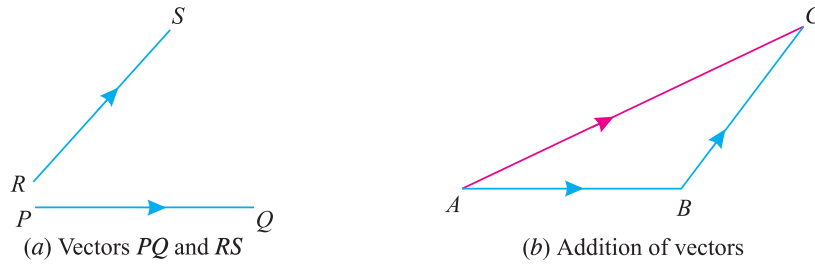

Fig. 1.3.
5. **Addition of vectors.** Consider two vectors  $PQ$  and  $RS$ , which are required to be added as shown in Fig. 1.3. (a).
Take a point  $A$ , and draw line  $AB$  parallel and equal in magnitude to the vector  $PQ$  to some convenient scale. Through  $B$ , draw  $BC$  parallel and equal to vector  $RS$  to the same scale. Join  $AC$  which will give the required sum of vectors  $PQ$  and  $RS$  as shown in Fig. 1.3. (b).